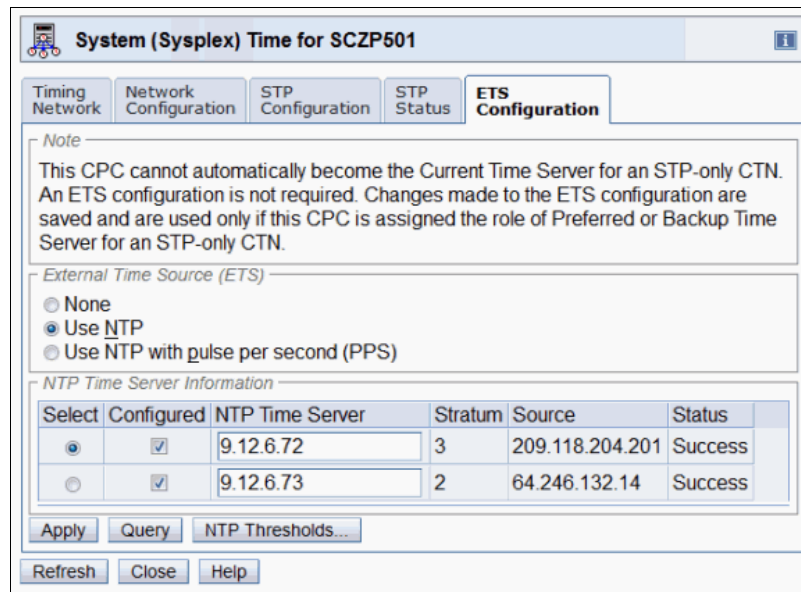

Figure 9-31 System (Sysplex) Time: two NTP server configured as ETS
2. Select **Use NTP** to display the NTP server information table (Figure 9-31).